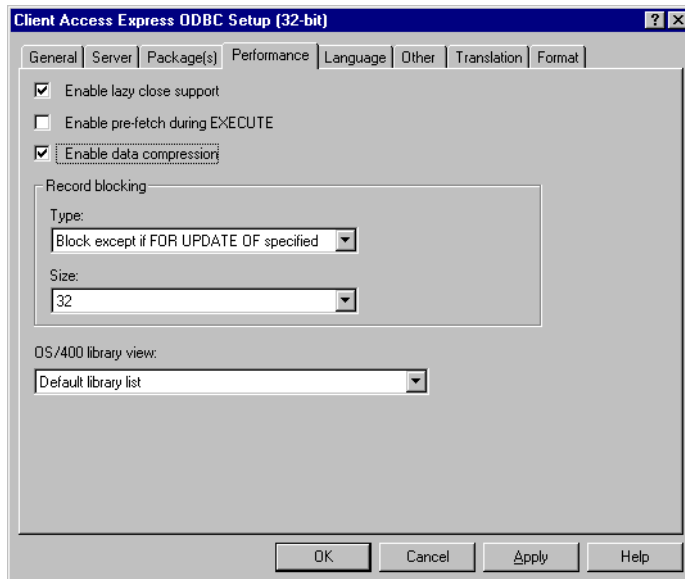

Figure 69. Client Access Express ODBC Setup (32-bit) (Part 4 of 6)
10. Select **Enable Lazy Support**. Select **Enable Data Compression** as shown in Figure 69.
11. Select **Enable Lazy Close Support**. Select **Enable Data Compression**. The information should appear the same as shown in Figure 69 on page 199.
15. Select **System naming convention (*SYS)** for Naming convention. The information should appear the same as shown in Figure 69 on page 199.
29. Select **Enable Lazy Close Support**. Select **Enable Data Compression**. The information should appear the same as the example in Figure 69 on page 199.
33. Select **System naming convention (*SYS)** for Naming convention. Otherwise, the information should appear the same as shown in the display in Figure 69 on page 199.
47. Select **Enable Lazy Close Support**. Select **Enable Data Compression**. The information should appear the same as shown in Figure 69 on page 199.
51. Select **System naming convention (*SYS)** for Naming convention. Otherwise, the information should appear the same as shown in Figure 69 on page 199.